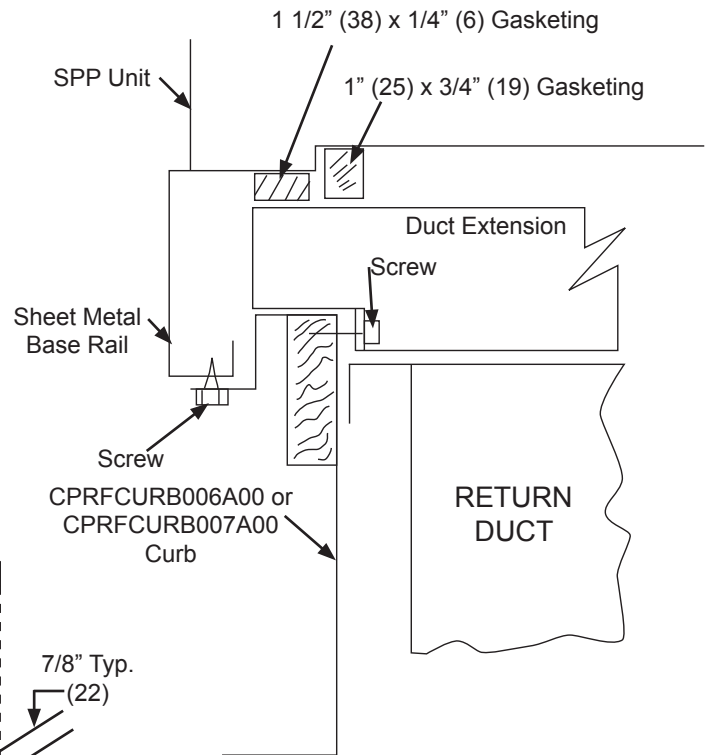

Fig. 3 - Roofcurb Adaptor Detail
7. Screw inside flange of adaptor to existing curb, see Fig. 3.
8. Install the 1 1/2" (38mm) x 1/4" (6mm) gasketing around the top perimeter of the adaptor kit - all 4 sides, see Fig. 3.
9. Install the 1" (25mm) x 3/4" (19mm) thick gasketing around all 4 sides of the return and supply duct openings. See Fig. 3.
11. To secure unit to roofcurb, screw through bottom flange of curb into steel base rail, Fig. 3.